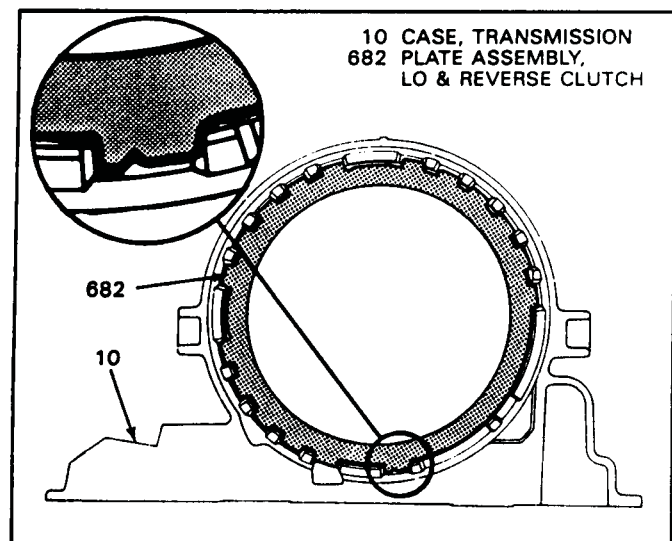

Figure 90
5. Align the steel plates with the notch in the case lug as shown in Figure 90.